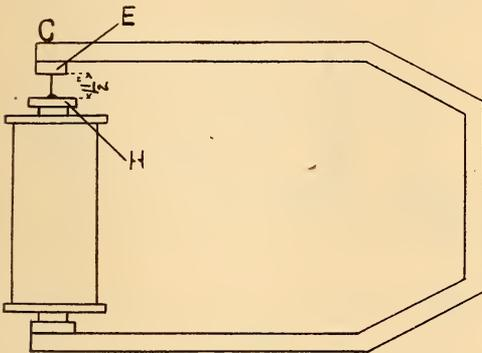

FIG. 2. COILS MOUNTED IN PERMANENT MAGNET.
The permanent magnet which comes with the bell ringer is removed, and one about 3-16 of an inch thick and one inch wide is substituted, being bent in the shape as shown in Fig. 2, with the top (C) clearing the magnet coils $1\frac{1}{2}$ inches. The permanent magnet can usually be screwed to the same place as the one taken off. This permanent magnet can be easily made by bending to the desired shape a piece of the best hard steel and drilling the holes which will be necessary to mount it to the ringer coils.
of thin wire over it from end to end and pass the current from several dry cells through the wire, tapping the magnet occasionally, which causes the magnetism to saturate the rod more freely. The bending and drilling should all be done before the magnetization has taken place, as this operation would destroy the magnetism to a certain extent. In Fig. 2 is shown the plan of screwing the permanent magnet to the ringer coils. The pivot swing which originally supported the armature is now screwed to the under side of the upper end of the magnet, which is shown at (E). The armature is now placed in a vice and the two ex-